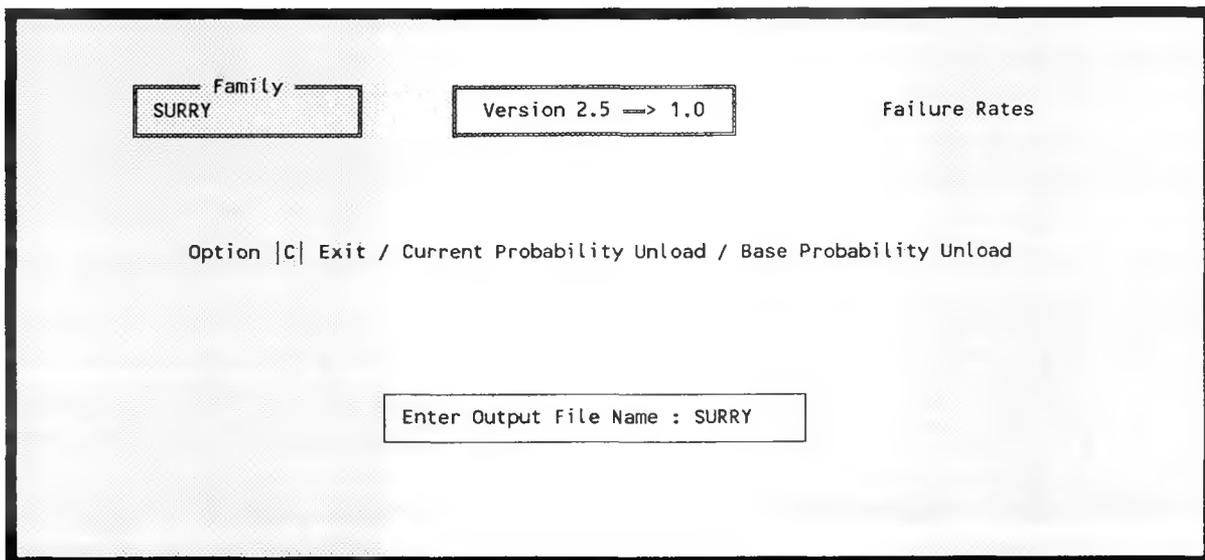

Figure 336. Current vs base probability values.
10.5.3.1 Failure Rates. This option allows you to output basic event failure rates generated in Version 2.5 to a Version 1.0 compatible format (as ".RAT" files). To invoke this option, type an <F> in the option field, or highlight "Failure Rates" and press <Enter> or <->. Figure 336 will be displayed. On this screen, you have three options: Exit, Current Probability Unload, or Base Probability Unload.